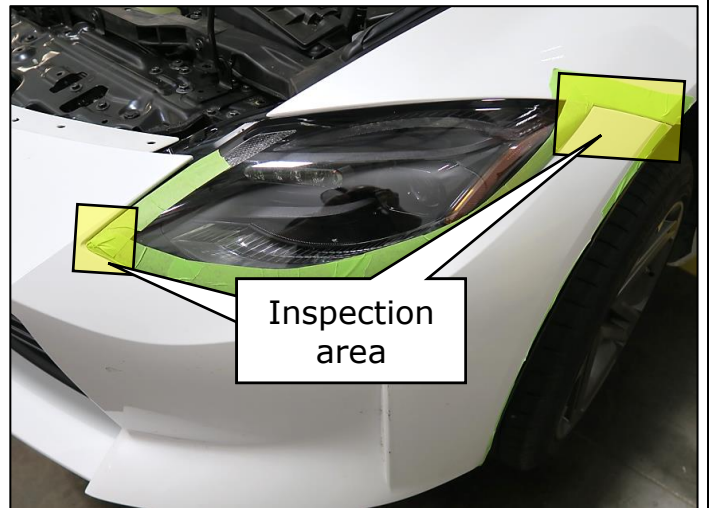

Figure 40
34. Verify the initial fitment of the front bumper. (Figure 40)